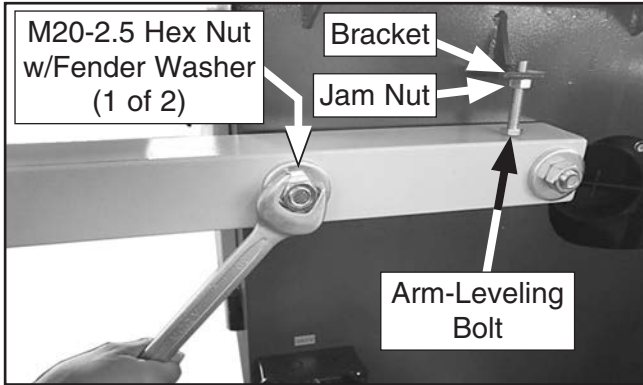

Figure 53. Securing arm support base.
50. Adjust arm-leveling bolt until arm support base is parallel with floor (see **Figure 53** on **Page 35**).
- 51. Tighten jam nut against bracket (see **Figure 53**) to secure arm-leveling bolt.
- 52. Secure arm-support base with (2) M20-2.5 hex nuts and (2) 20mm fender washers (see **Figure 53**).